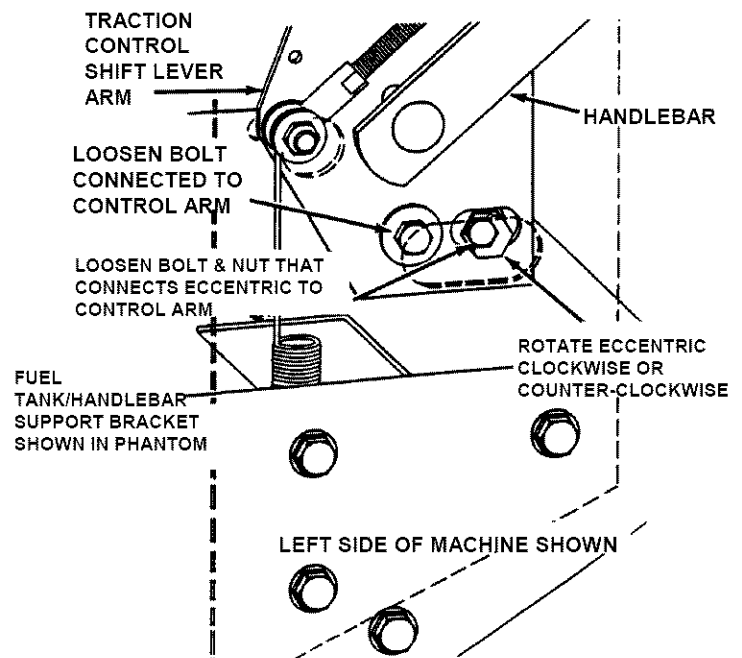

FIGURE 3.11
STEP 10: Wheel rotation will be stopped by adjusting the eccentric on the pump arms on the right and left pumps. Turning the eccentric slightly clockwise or counter-clockwise will synchronize the pump and traction controls for Neutral. See Figure 3.11. To turn the eccentric, first loosen the bolt in the pump control arm and the nut and bolt fastening the eccentric to the pump control arm. With traction controls latched in Neutral, start engine. Turn eccentric slightly clockwise or counter-clockwise until wheels stop rotating. Tighten control arm bolts and eccentric nut and bolts. Check for wheel rotation. Repeat eccentric adjustment if needed.